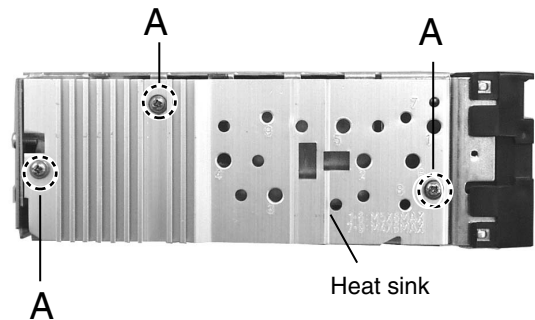

Fig.3
■ Removing the heat sink (See Fig.3)
- The heat sink (Refer to Fig.3)